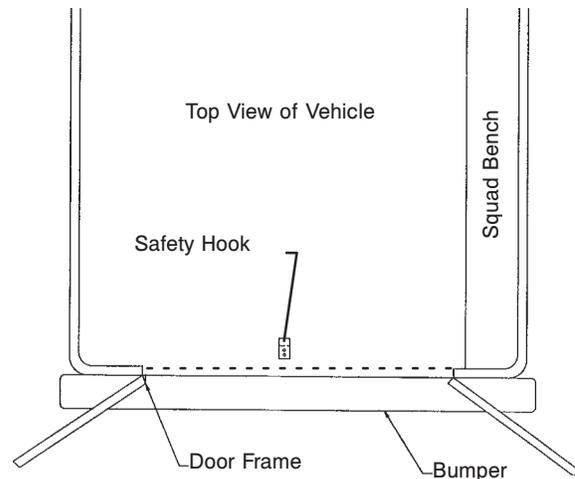

Figure 12 - Safety Hook Placement
4. Mark the position of the safety hook on the patient compartment floor. The safety hook should be installed as close as possible to the rear of the vehicle while allowing the vehicle doors to close and checking that the load wheels always remain on the patient compartment floor (i.e., wheels do not roll off the door sill when the cot safety bar engages the safety hook) when the cot is loaded and unloaded from road and/or curb height (Figure 12).